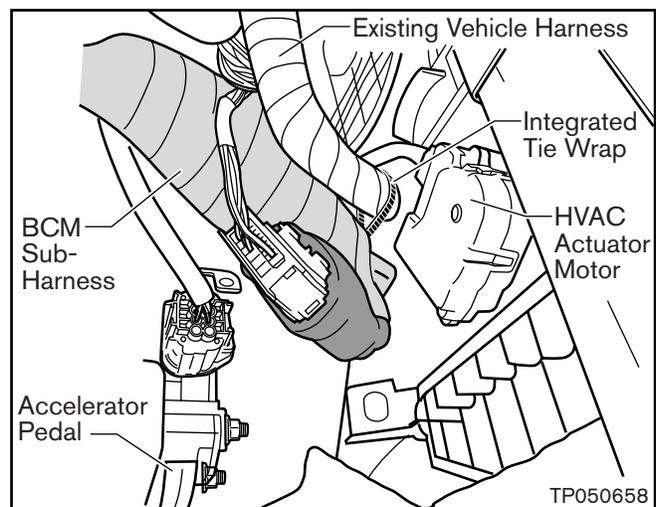

Figure 9
10. Secure the new BCM Sub-Harness to the Existing Vehicle Harness (see Figure 9).